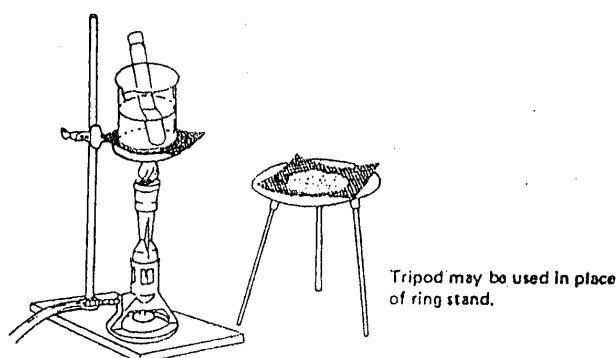

Figure 11-4: Pasteurization setup.
- 7) Loosen the caps, and place Tubes 1 and 2 in a boiling water bath, as shown in Figure 11-4.